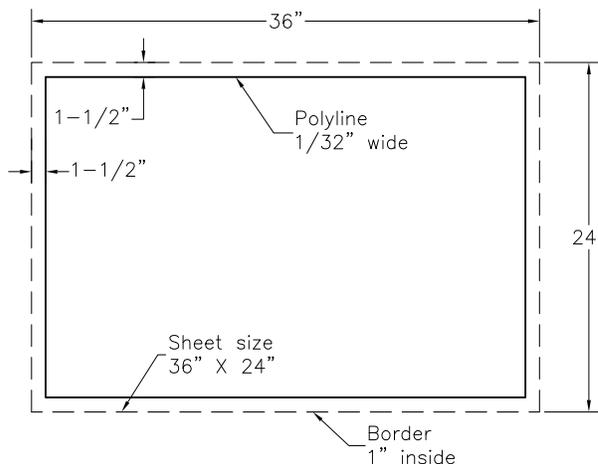

Figure 1-23 Drawing for Exercise 5
Create the template drawing shown in Figure 1-23 with the following specifications and save it with the name *protoe5.dwt*:
- Plotted sheet size 36" x 24" (Figure 1-23)